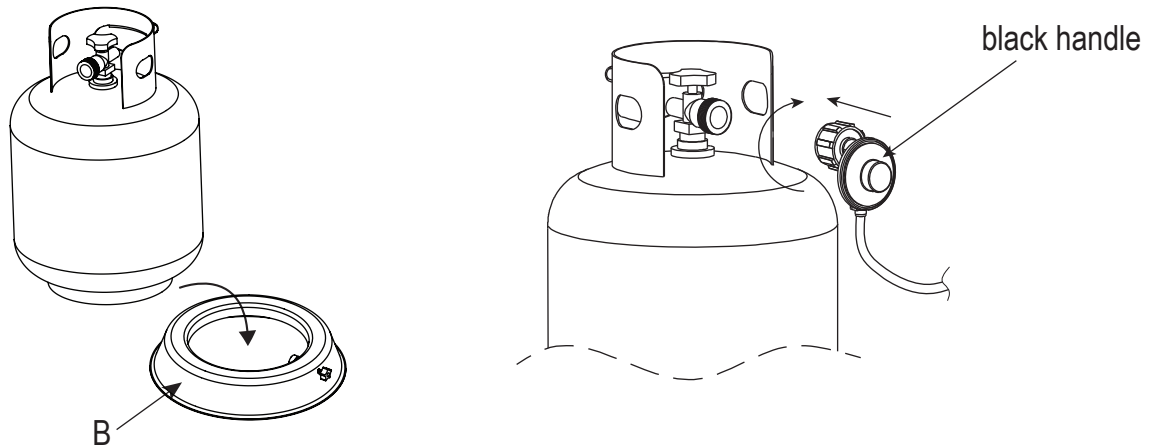

Figure 3
3. Put the gas tank in the tank seat (B), connect the regulator, screw the black handle clockwise to tighten, turn the black handle counterclockwise to remove. The hose must not turn upside down. The knob on the control panel is turned all the way to the "OFF" position when the fireplace is NOT in use (see Figure 3).